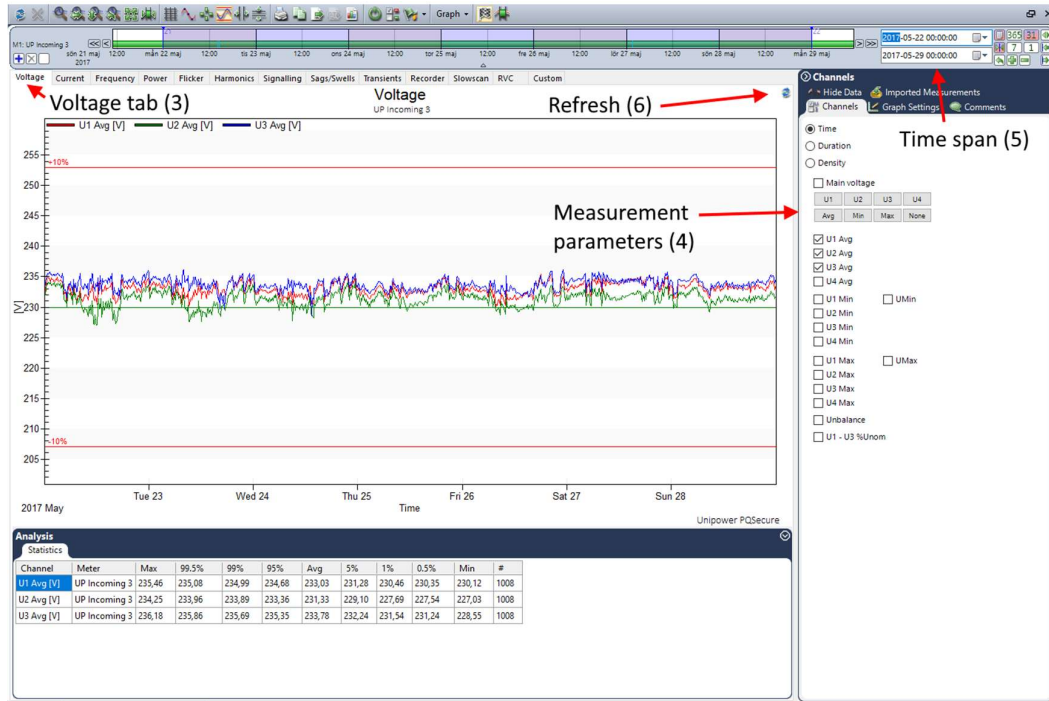

Figure 6
6. Click the **Refresh** button, the graph is created and will resemble the graph in Figure 6